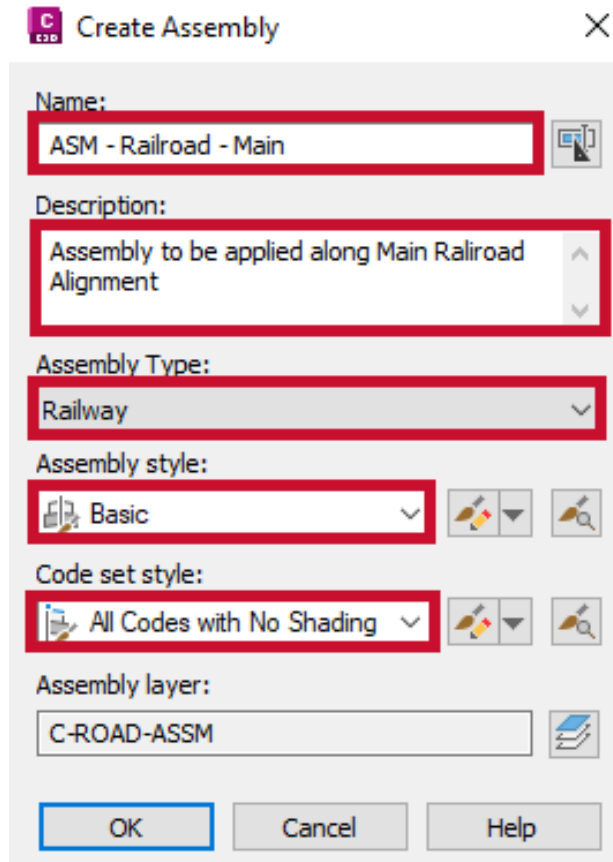

Figure 4.22 – The Create Assembly dialog box
*Figure 4.22* shows these settings in the **Create Assembly** dialog box: